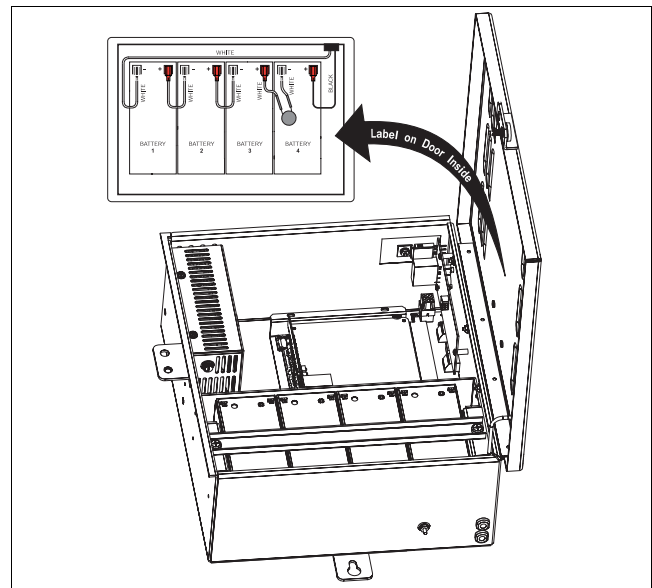
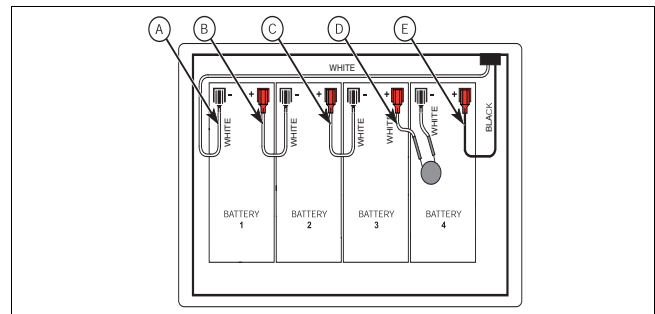

Figure 6. Battery Placement and Label Location
Figure 7. Battery Wiring Connections
1. Open the Battery Backup Unit. Refer to Figure 6 and Figure 7 on page 7 for the remainder of this procedure. Figure 6 shows the location of the wiring instruction label. Figure 7 is an expanded view of the label with
7. Install the new battery. Keep the battery orientation the same as the orientation of the original battery. Reference Figure 6. The battery terminals should be positioned at the top of the unit (closest to the circuit boards.) The black battery terminal (-) should be on the left of every battery.